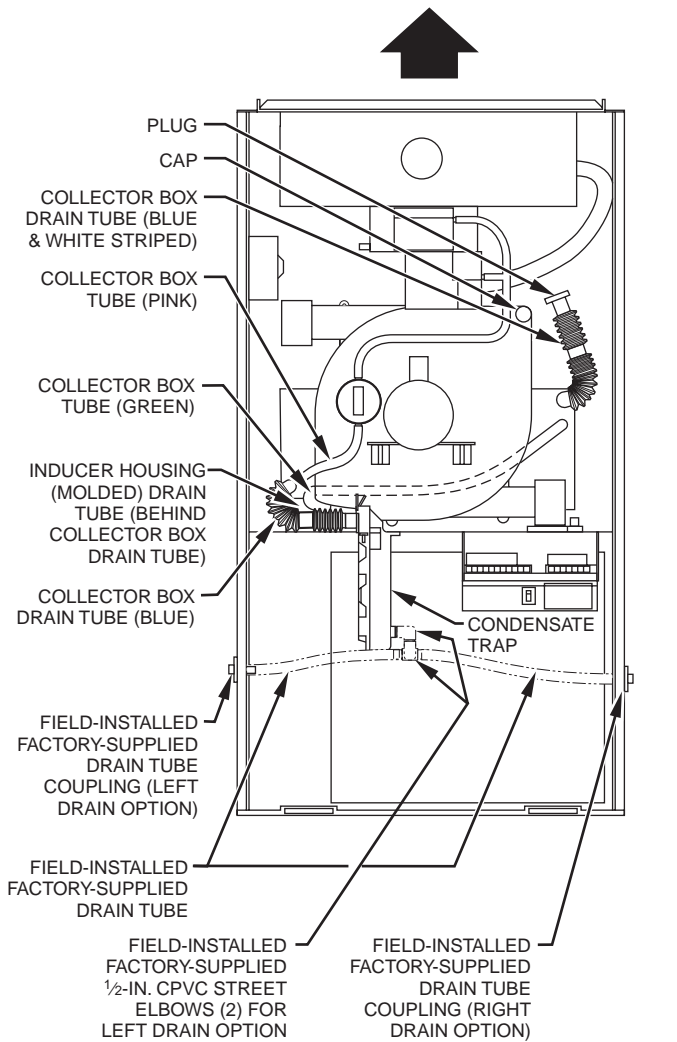

Fig. 6—Factory-Shipped Upflow Tube Configuration (Shown With Blower Access Panel Removed)
Some assembly and modifications are required for furnaces installed in any of the 4 applications shown in Fig. 1. All drain and pressure tubes are connected as shown in Fig. 6. See appropriate application instructions for these procedures.
NOTE: See Fig. 6 or tube routing label on main furnace door to confirm location of these tubes.
- e. Cement 2 factory-supplied 1/2-in. street CPVC elbows to the rigid drain tube connection on the condensate trap. (See Fig. 6.) These elbows must be cemented together and cemented to condensate trap drain connection.
NOTE: See Fig. 6 or 7 or tube routing label on main furnace door to check for proper connections.